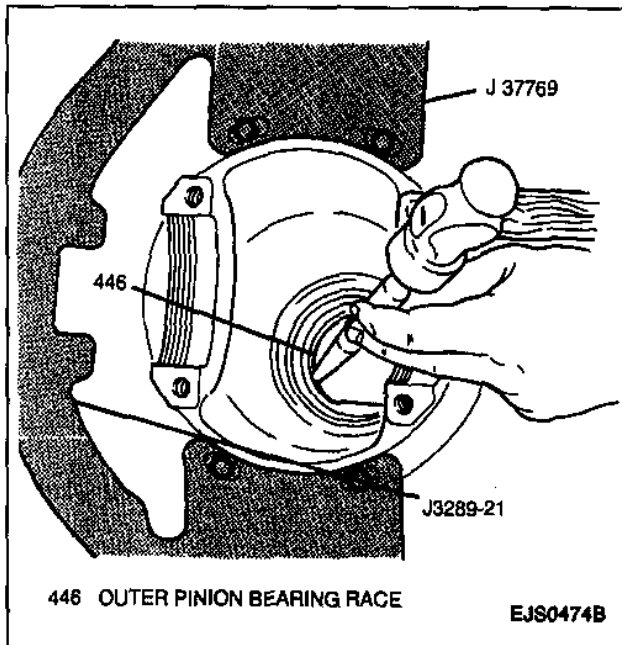

Figure 47—Removing Outer Pinion Bearing Race
16. Outer pinion bearing race from differential carrier using a large drift punch and hammer. Tap around the rear of the rear of the bearing race and slowly drive each race out evenly (Figure 47).